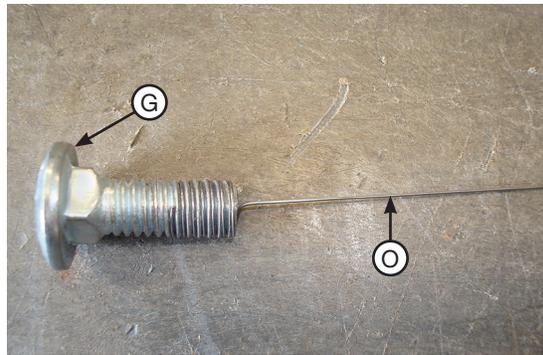

Fig. 9
- Using the 3/8" wire bolt leader tools (O), thread over two 3/8"-16 x 1" carriage bolts (G) (Fig. 9).